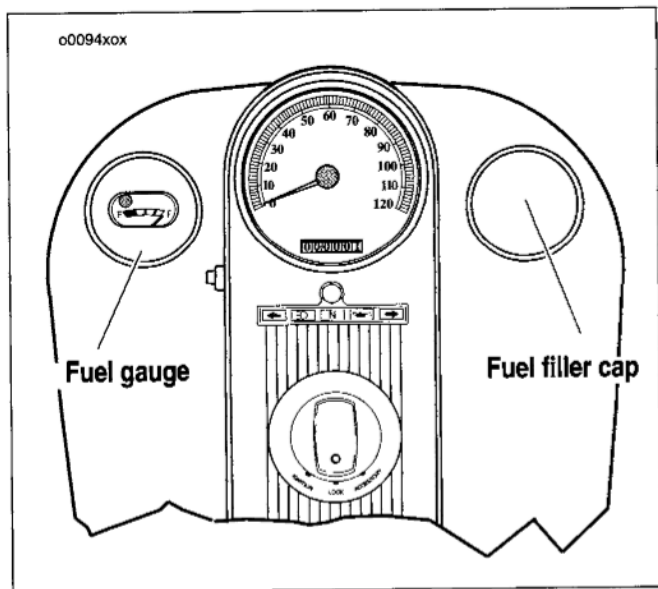

Figure 24. Fuel Gauge/Cap
See Figure 24. To open, turn cap counterclockwise and lift up. To close turn fuel filler cap clockwise until it clicks. The ratchet action of the fuel cap prevents overtightening.
*See Figure 24. Softail model fuel filler caps are located on the right side of the fuel tank. The "cap" on the left side is the fuel gauge and is not removable.*